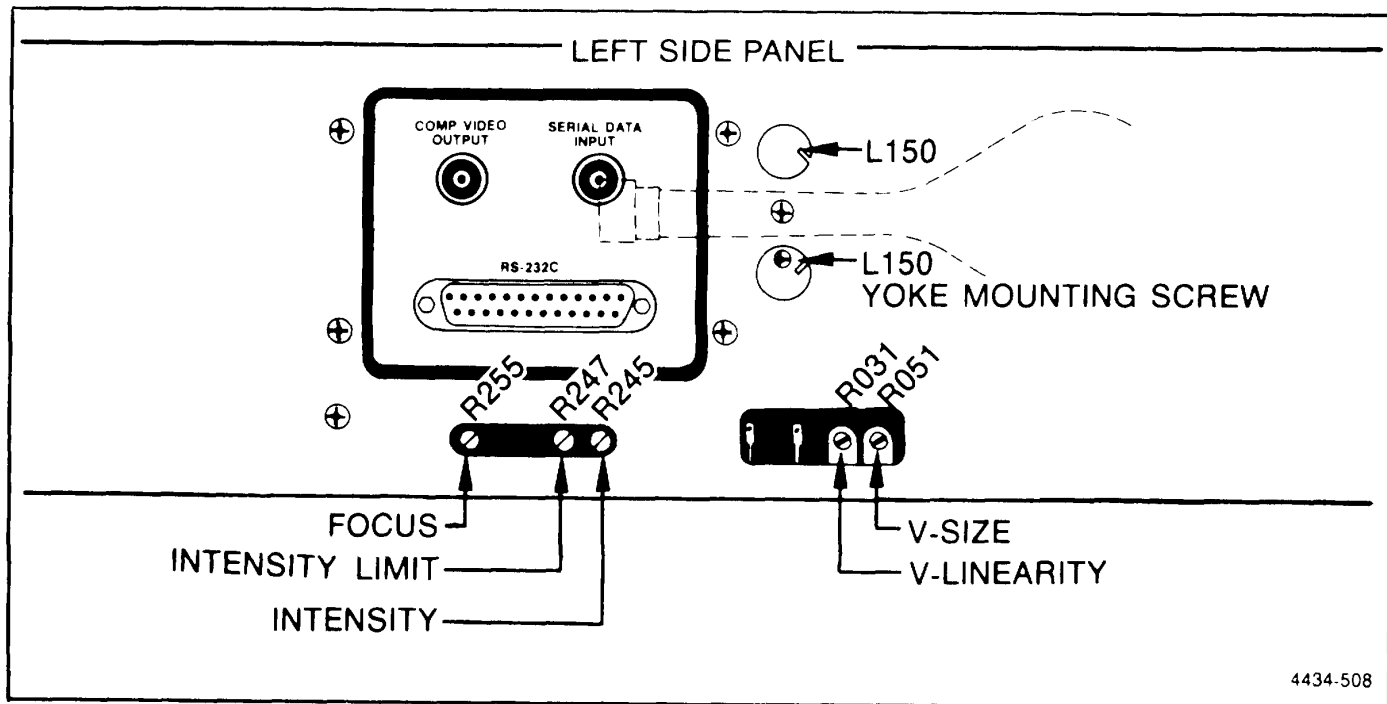

Figure 5-15. 318 CRT adjustments.
- b. Refer to Figure 5-15. Adjust INTENSITY control R245 on the A10 CRT board to midrange.